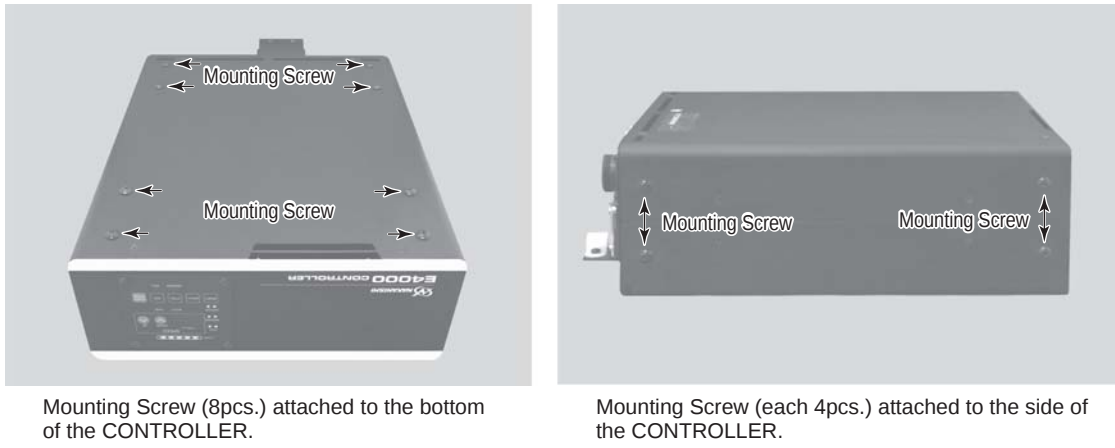

Fig. 9
- Bracket Mounting Screws are attached to the following locations of the CONTROLLER (Fig. 9).
- (1) Bottom Mountng
- ① Remove the Mounting Screws (8pcs.) from bottom of the CONTROLLER (Fig. 9).
(2) Side Surface Mounting
- ① Remove the Mounting Screws (4pcs.) from side of the CONTROLLER (Fig. 9).